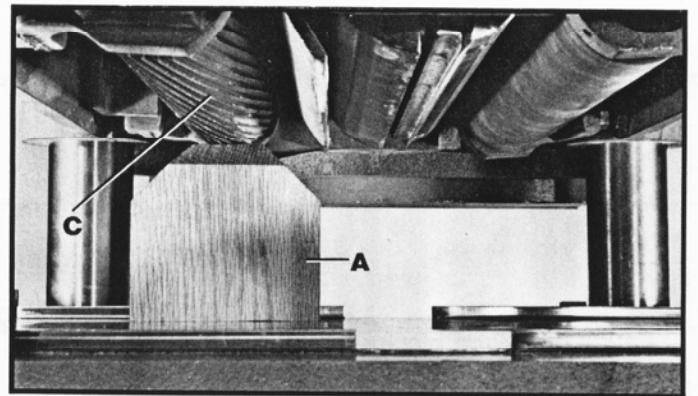

Fig. 32
4. Move the gage block (A) Fig. 32, minus the feeler gage, under one end of the infeed roll (C). The bottom of the infeed roll (C) should just touch the top of the gage block (A), as shown.